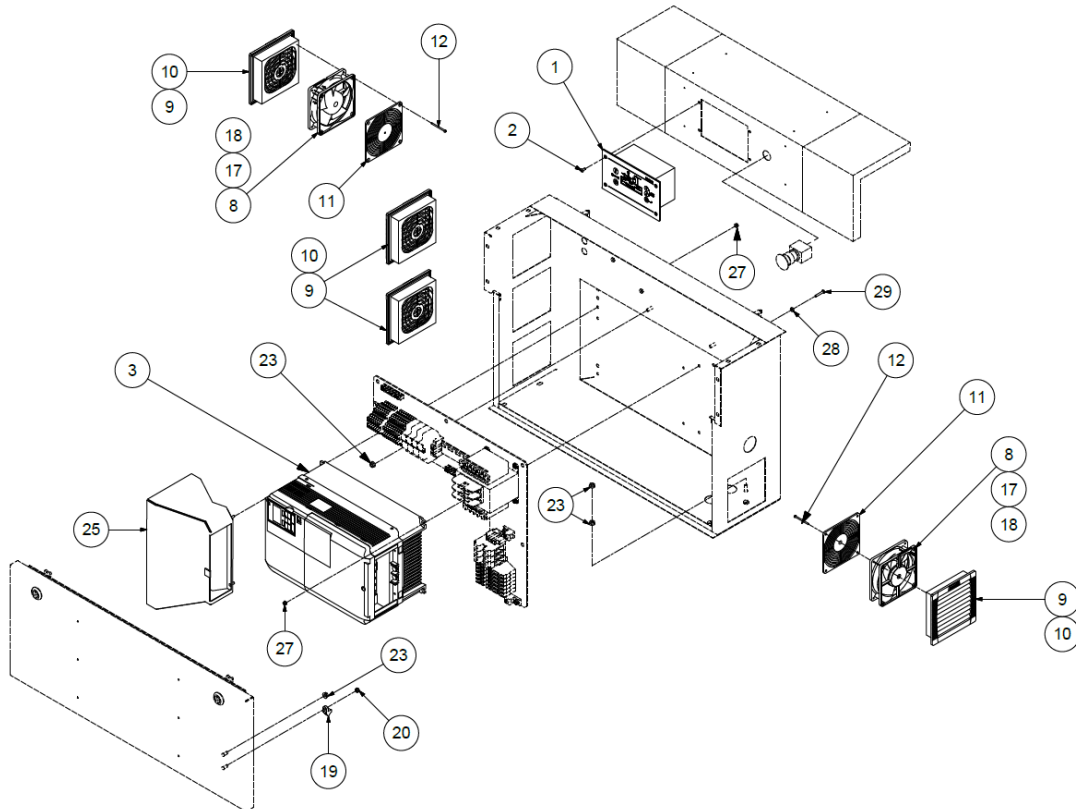

FIGURE 9-7 Control Panel Cooling Hardware
2. Remove VFD exhaust air duct 25 in Figure 9-7.
3. Inspect external cooling fan/filter assemblies in Figure 9-7.